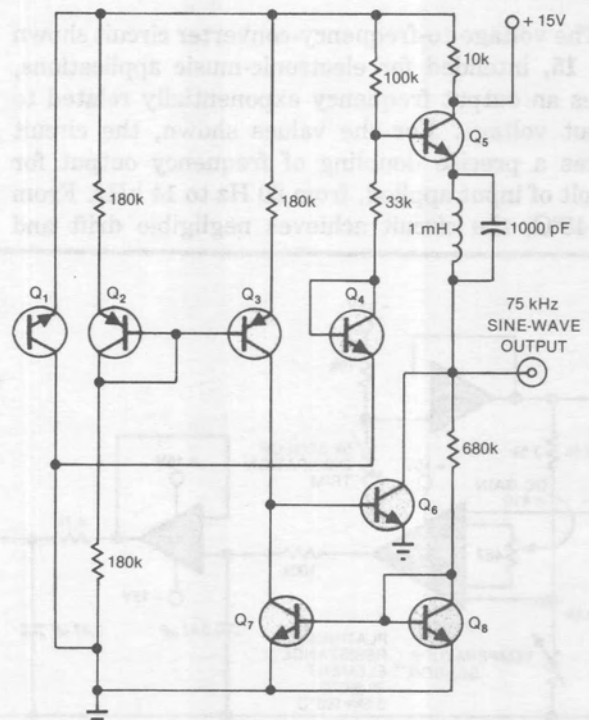

Fig 16—What role do matched transistors play in the production of a sine wave?
24. The circuit shown in Fig 16 generates a 75-kHz sine wave with about 2% distortion. Total supply-current drain is about $2.5 \mu A$. Q_1 functions as a temperature-compensated reference diode to stabilize the circuit against supply and temperature shifts. The